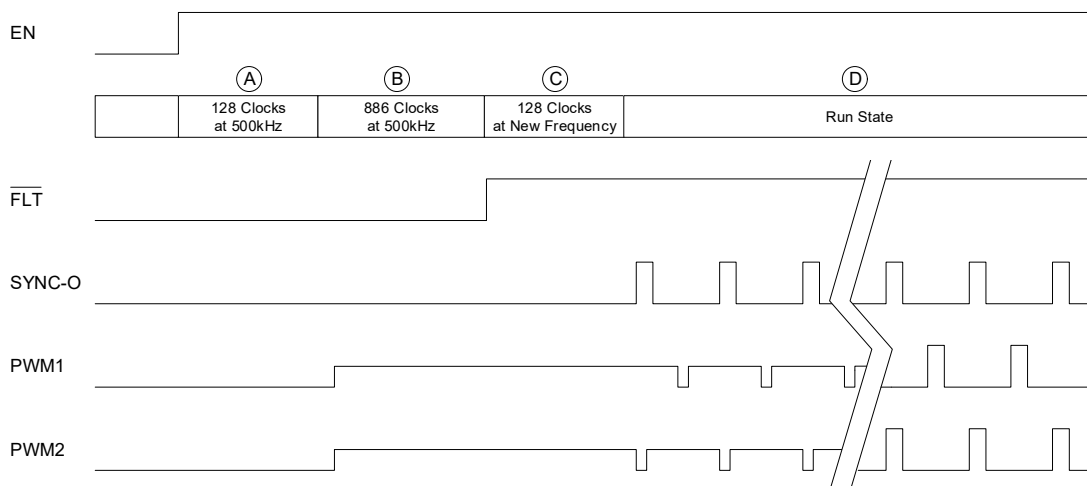
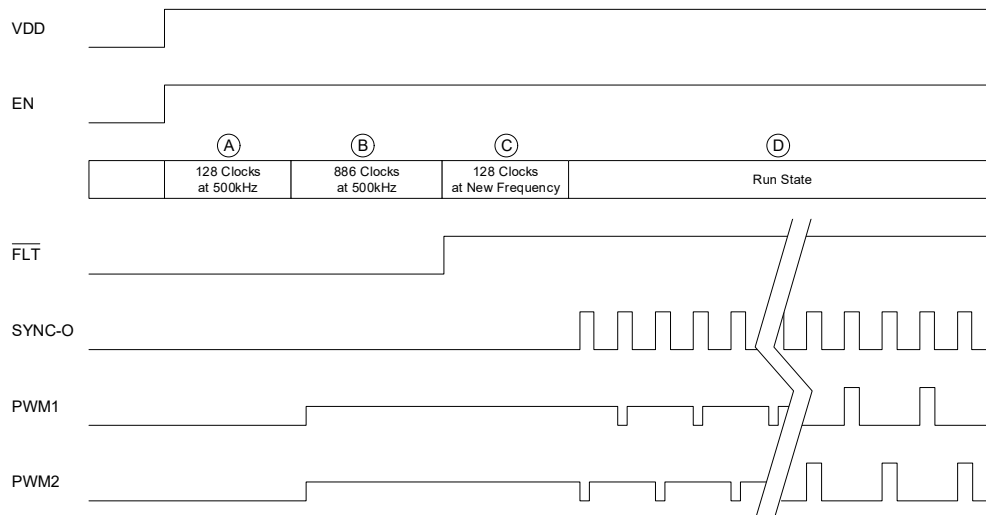

Figure 47. Start-Up Timing Diagram (R_{SYNC-O} = OPEN)
Figure 48. Start-Up Timing Diagram ($R_{\text{SYNC-O}} = 100\text{k}\Omega$)
When the ISL73847M first powers up, it goes through several states before boot refresh and soft-start. After VDD has crossed the rising UVLO threshold, the oscillator waits for 128 clock cycles at 500kHz before allowing the digital core to enter its configuration state. The configuration state lasts 886 clock cycles at 500 kHz. When the digital core completes its configuration, it signals the oscillator to switch to the frequency set by the FS pin or SYNC-I. After an additional 128 clock cycles at the new frequency, boot refresh pulses commence, followed by soft-start. Figure 47 and Figure 48 illustrate the start-up sequence.
During states A and C in Figure 47 and Figure 48, the oscillator blanks the clock signal to the digital core. Therefore, the oscillator has time to stabilize its frequency before entering the configuration state (B) or run state (D).